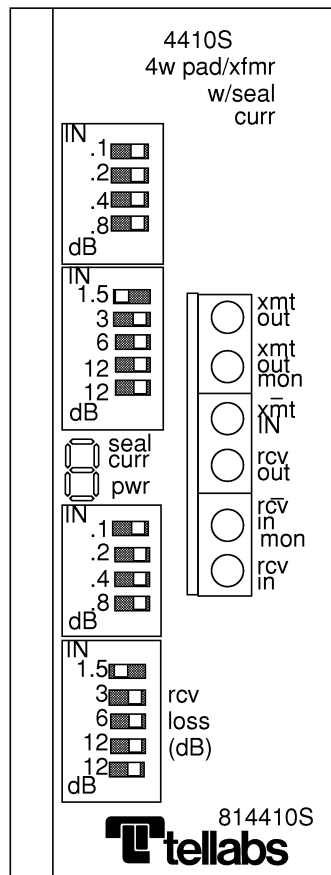

Figure 1-1 4410/S Front Panel Layout
- 1.4 Six bantam-type test jacks on the front panel of the 4410/S provide test access to the module (see Figure 1-1.) Both opening and bridging (monitoring) jacks are provided at the facility-side ports, while the terminal-side ports are equipped with opening jacks only.